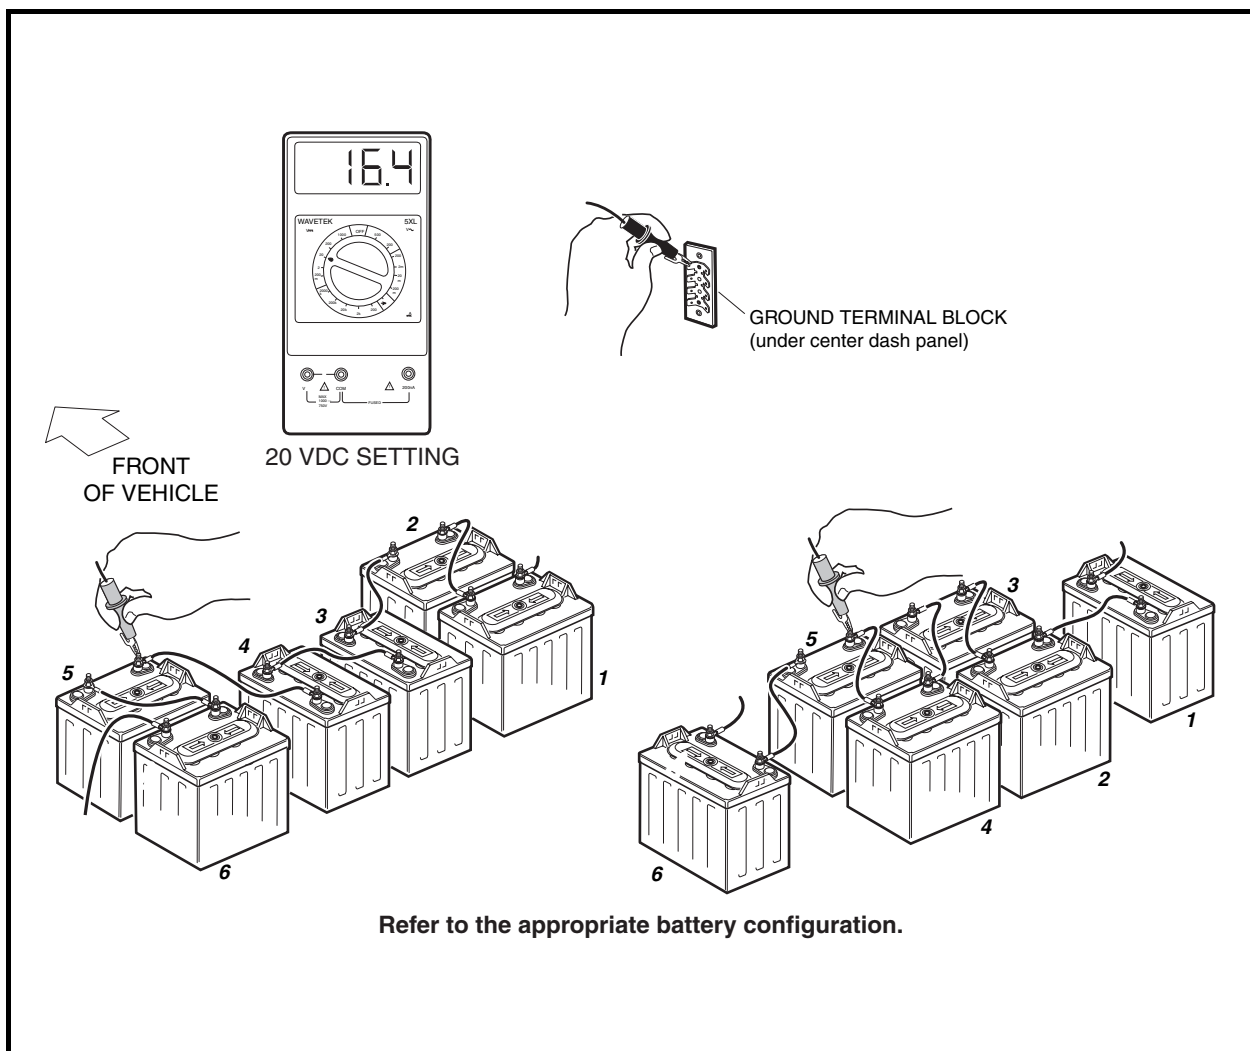

Figure 11-31 Battery Voltage Supply Test
5. Place an alligator clip on the black (–) probe of the multimeter and connect the alligator clip to the terminal block located on the frame under the front body (**Figure 11-31, Page 11-31**).